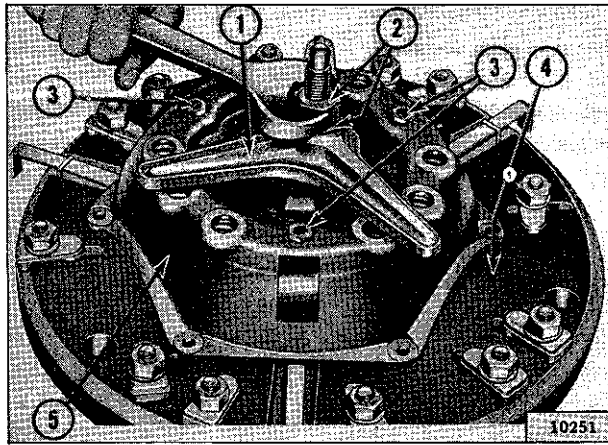

FIG. 198—DISASSEMBLING BORG AND BECK CLUTCH
a. Install the three-legged spider (Fig. 198, No. 1) so that it rests directly against the top of the clutch pressure plate cover.